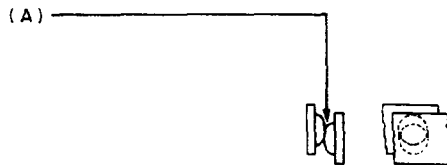

Fig. 14—Contact Alignment
2.28 Contact Alignment: Fig. 14(A)—Contacts shall not be out of alignment more than 2/5 (40 percent) of their base diameter.